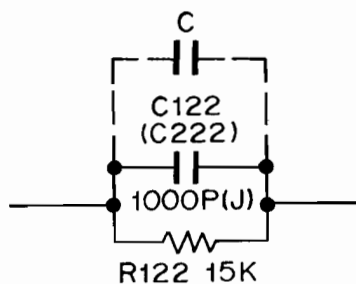

Fig. 7.13
**(1) For ZX Tape**
- b) Feed in 10 kHz and 400 Hz (-20 dB) then record and play it back. Check the difference of the levels between 10 kHz and 400 Hz, and mount an additional capacitor in parallel with the C122 (C222) from the dip side of the printed circuit board depending upon the difference of the levels against 400 Hz. Refer to Fig. 7.13.